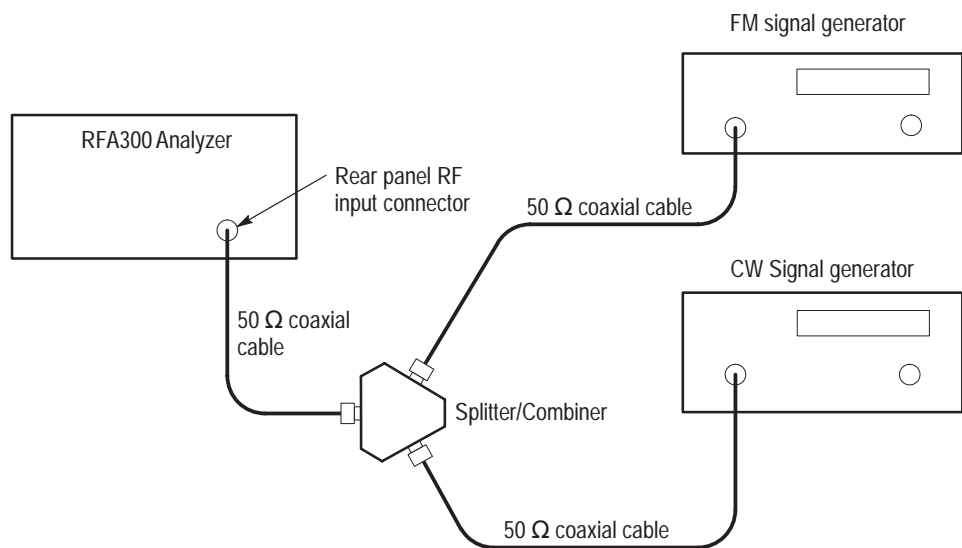

Figure 4–15: Out-of-channel accuracy test setup
10. Connect the signal generators, combiner, and RFA300 measurement set as shown in Figure 4–15.